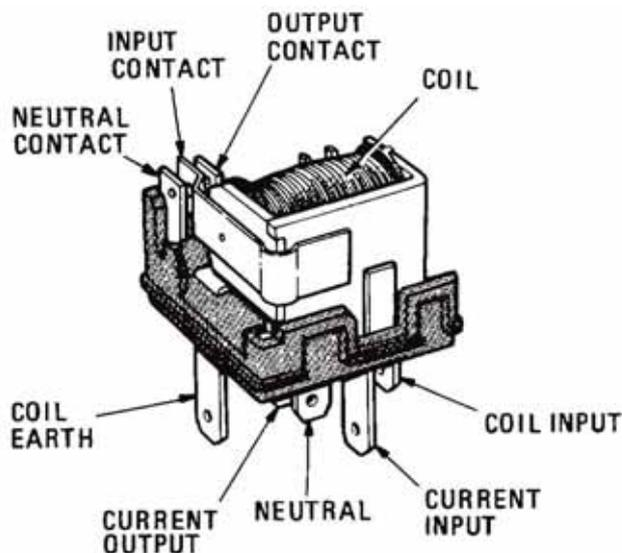

Figure 122 Relay
**173.** Relays are fitted to the electrical system to remove the need to have heavy currents flowing through switches on the dashboard. As the switch on the dashboard is tripped, a small current flows through the switch to the relay. At the relay, the current flows through coil windings creating a magnetic field, which causes a set of points within the relay to close, completing a circuit which allows a heavier current to flow and operate the device, e.g. headlights, horn, etc (Figures 122 and 123).